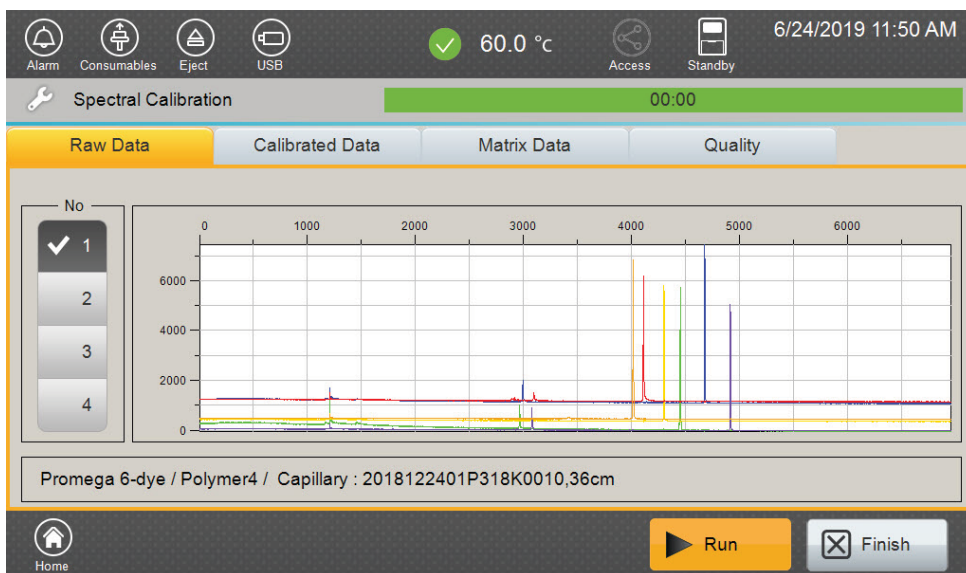

Figure 24. Spectral Calibration 'Raw Data' tab.
1. After the run, the 'Raw Data' tab (Figure 24) will be displayed. The minimum peak height for spectral calibration is 500 relative fluorescent units (RFU) and the maximum peak height is 32,767RFU.